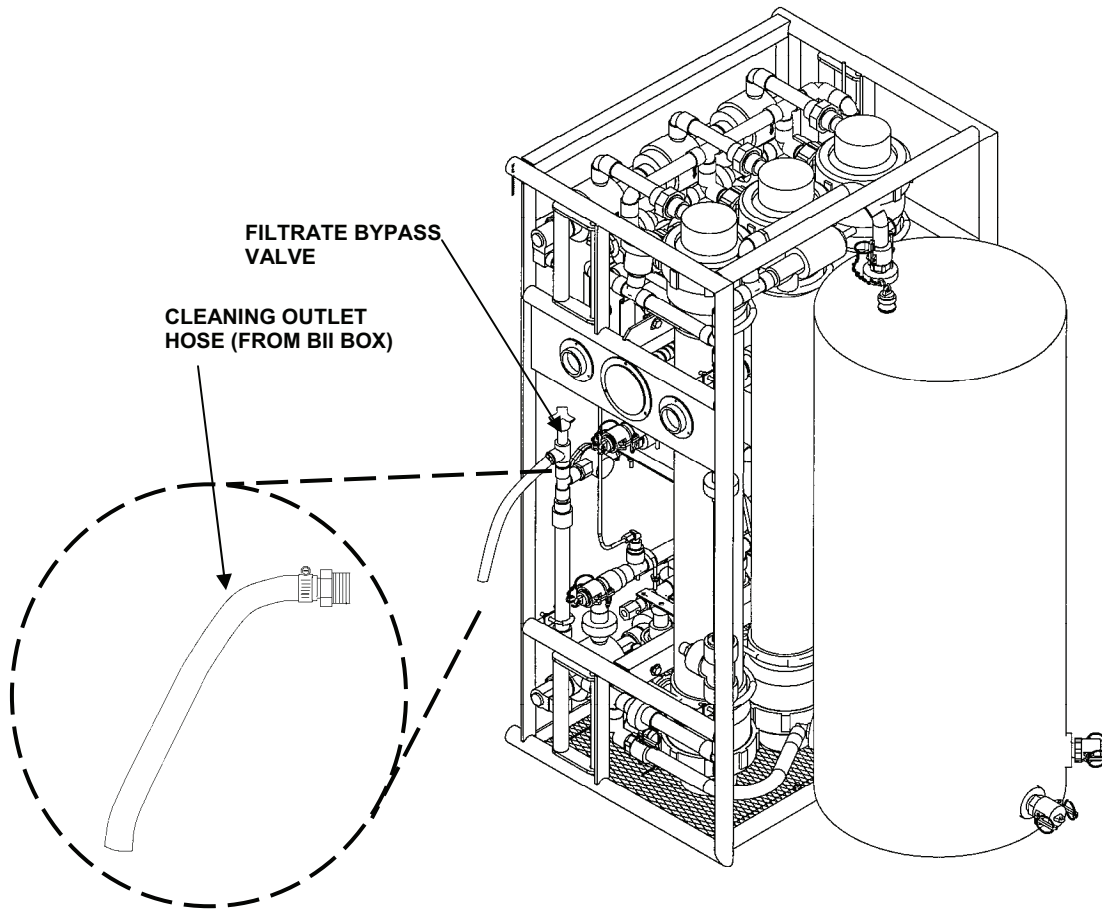

Figure 5. Ultrafiltration Module.
4. Attach cleaning outlet hose from BII to UF filtrate bypass valve (See Figure 5). Place the plastic bucket from the BII box under the hose to catch the bypass flow.